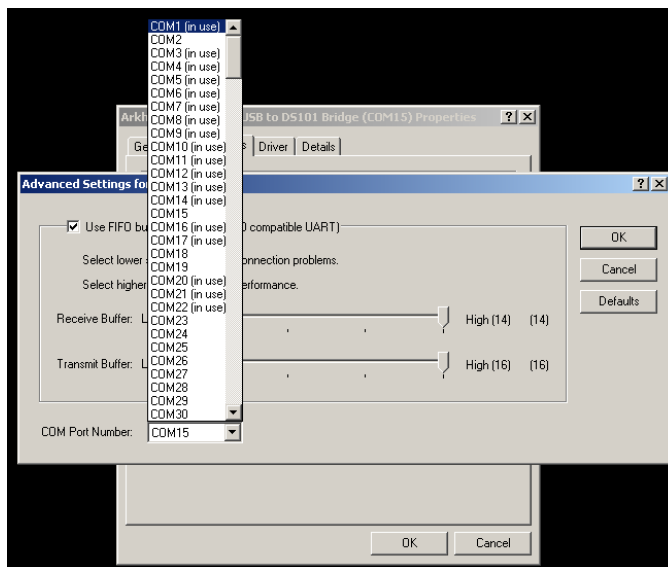

Figure 3-6: Select New COM Port Number
5) Pull down the COM port list and select desired COM port number as shown in Figure 3-6.